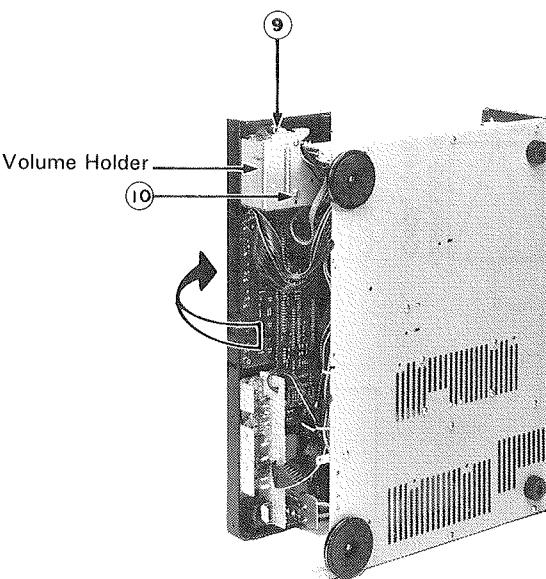

Fig. 2
3. Turn the front panel over the arrow direction. (See fig.2.)
6. Remove two screws ⑩ and ⑪ securing the volume holder. (See fig.2.)